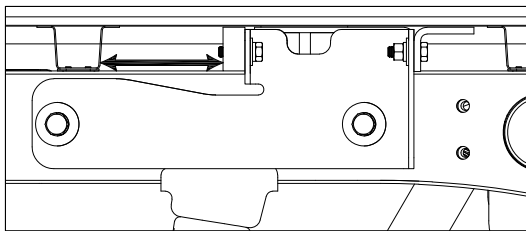

Figure D1: Passenger side of truck frame inside the wheel well.
- Square the hitch.** With a tape measure, check the distance between the Turnoverball hitch and the nearest bed cross member. The distance between the hitch and the cross member should be consistent on the passenger side and the driver side of the hitch, see Figure D1. Adjust hitch until the hitch and the bed cross member are the same from side to side.